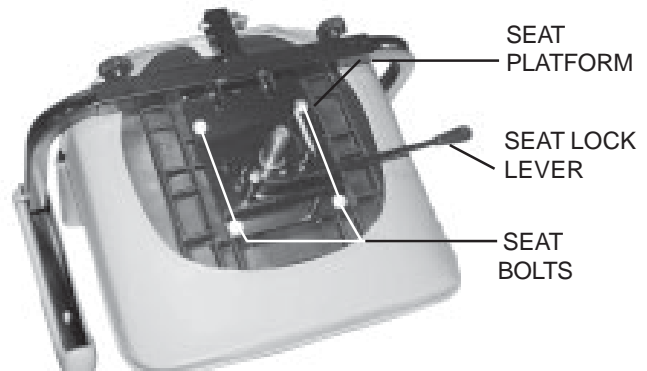

Figure 12. Front-To-Back Seat Adjustment
1. Push forward on the seat lock lever and lift the seat up and off of the scooter. See figure 12.
You can reposition the scooter's seat forward or backward to one of three settings to adjust the distance between the seat and the tiller. See figure 12.
2. Remove the four bolts that fasten the seat to the seat platform. See figure 12.